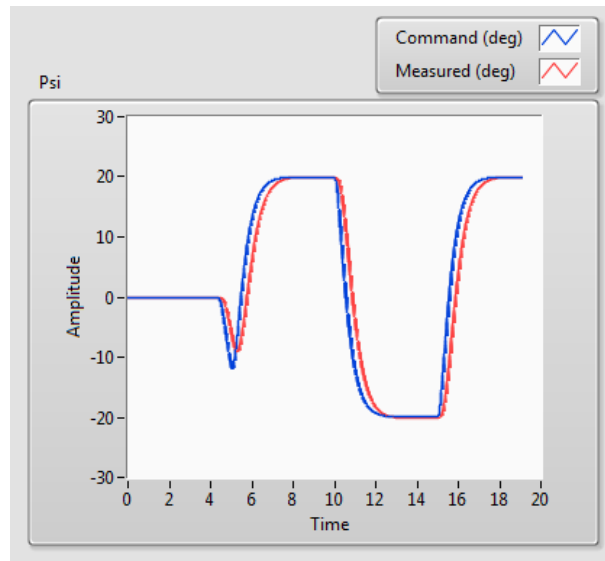

Figure 3.2: Simulated closed-loop response.
8. The scope should be displaying a response similar to Figure 3.2. Note that in the *Psi* scope, the blue trace is the setpoint position and the red trace is the simulated position.